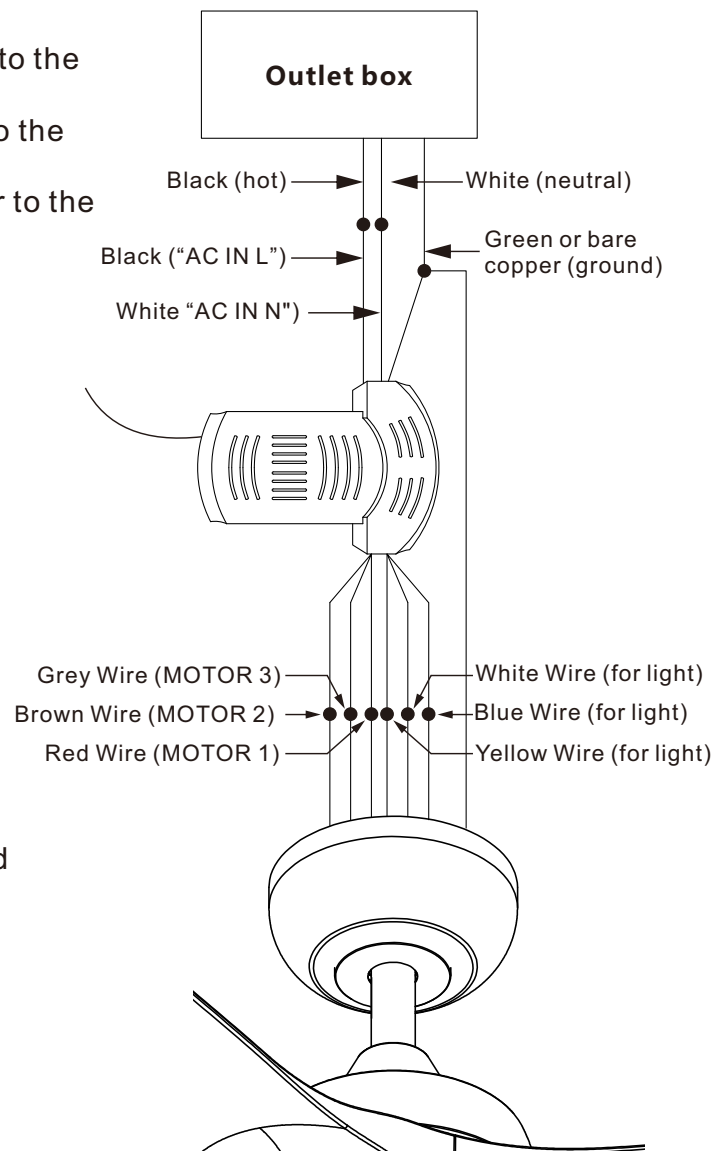

Figure 17
**Motor to Receiver Electrical Connections:**(Fig.17) Connect the red wire (**MOTOR 1**) from receiver to the red wire(**MOTOR 1**)from fan with wire nut . Connect the brown wire (**MOTOR 2**) from receiver to the brown wire(**MOTOR 2**)from fan with wire nut . Connect the gray wire (**MOTOR 3**) of the receiver to the gray wire (**MOTOR 3**) of the fan using a wire nut.
**Step 2.** (Fig.17) **Receiver to House Supply Wires Electrical Connections:** Connect the Black (hot) wire from the ceiling to the black wire marked "AC in L" from the receiver. Connect the white (neutral) wire from the ceiling to the white wire marked "AC in N" from the Receiver. Secure the wire connections with the plastic wire nuts provided.
**Step 3.** (Fig.17) If your outlet box has a ground wire (green or bare copper) connect it to the fan ground wires and the receiver ground wire; otherwise connect the hanging bracket ground wire to the fan and the receiver ground wire. Secure the wire connection with a plastic nut provided. After connecting the wires, spread them apart so that the green and white wires are on one side of the outlet box and other wires are on the other side. Carefully tuck the wire connections up into the outlet box.